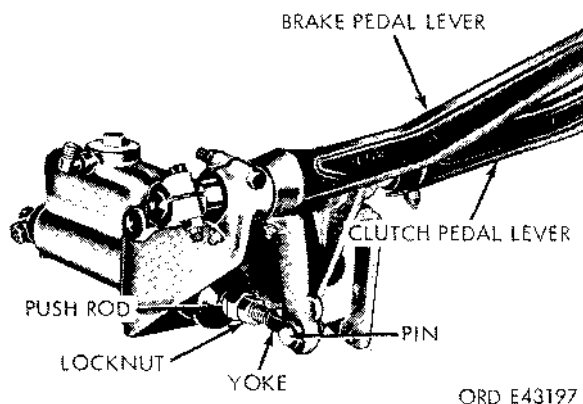
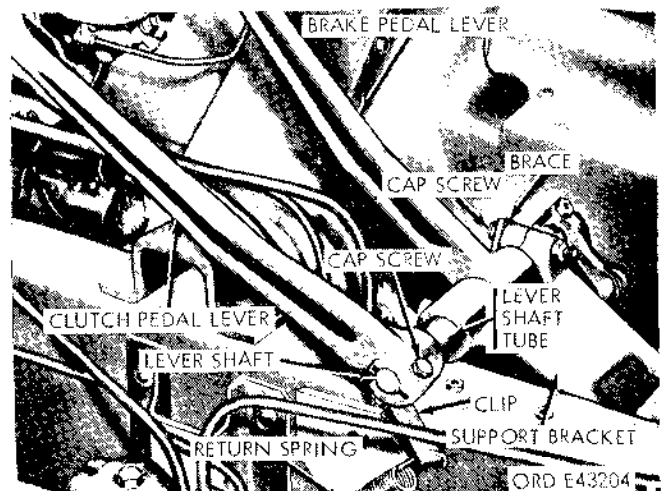

Figure 2-177. Brake pedal linkage with master cylinder attached.
Figure 2-182. Brake and clutch pedal assembly mounted to vehicle.
(a) Remove the pin (fig. 2-177) securing the push rod yoke to the pedal lever.
(b) Hold the push rod to prevent it from turning, and loosen the locknut on the yoke (fig. 2-177).
(c) Holding the push rod, turn the yoke until the desired brake pedal free travel is obtained (fig. 2-177).
(d) Position the push rod yoke on the pedal lever and install the yoke pin (fig. 2-177).
(f) Tighten the locknut on the push rod yoke, holding the push rod to prevent it from turning (fig. 2-177).
(1) Remove the capscrew securing the clutch pedal lever to the lever shaft (fig. 2-182). Remove the pedal assembly from the shaft.
(2) Unhook the upper end of the clutch pedal return spring (fig. 2-182) from the clip bolted to the lower end of the clutch pedal lever.
(3) Remove the nut and screw (fig. 2-182) from the lower end of the clutch pedal lever, and remove the lever clip and key from the lever shaft.
(3) Remove the nut and screw from the upper end of the brake pedal lever (fig. 2-182), and remove the brake pedal stem from the lever.
(6) Remove the rubber bumper from the stem, and remove the brake pedal from the top side of the floor board.
(7) Remove the nut and screw from the control rod lever, and remove the lever and key from the lever shaft.
(8) Remove the cotter pin from the end of the yoke pin (fig. 2-177), remove the yoke pin, and remove the push rod yoke from the lower end of the brake pedal lever.
(9) Unhook the upper end of the brake pedal return spring from the lower end of the brake pedal lever.
(10) Remove the nut and capscrew (fig. 2-182) from the upper right side of the support bracket, and remove the lever shaft tube with the shaft and bushings from the brake pedal lever and support bracket.
(1) Position the brake pedal lever (fig. 2-182) at the support bracket, and install the lever shaft tube with the shaft and bushings in the bore of the bracket and lever.
(2) Align the hole in the upper end of the support bracket brace (fig. 2-182) with the screw hole in the upper right side of the support bracket, and install the screw in the holes in the brace and bracket. Install the nut on the screw, and tighten it.
(3) Install the clutch control rod lever and key on the shaft, and secure it with the capscrew and nut.
(4) Position the control rod on the lower end of the control rod lever, install the yoke pin, and install the cotter pin in the end of the yoke pin.
(3) Install the clutch pedal lever (fig. 2-182) and key on the shaft. Position the return spring bracket clip at the lower end of the lever, install the capscrew in the holes in the lever and clip, and install the nut on the capscrew. Tighten the nut on the capscrew.
(6) Hook the upper end of the clutch pedal return spring to the clip at the lower end of the clutch pedal lever.
(7) Hook the upper end of the brake pedal return spring to the lower end of the brake pedal lever.
(8) Position the yoke (fig. 2-177) on the front of the master cylinder push rod at the lower end of the brake pedal lever, install the yoke pin, and install the cotter pin to the end of the yoke pin.
(9) Insert the brake pedal stem in the hole in the top side of the floor board, install the rubber bumper on the stem, and insert the stem in the hole at the upper end of the brake pedal lever.
(10) Install the capscrew and nut at the upper end of the pedal lever, and tighten it.
(11) Lubricate the brake pedal lever and lever shaft.
(12) Check the brake pedal free travel and adjust it if necessary (para 2-189 a ).
(13) Check the clutch pedal free travel and adjust it if necessary (para 2-49).
(1) Remove the cotter pin from the end of the yoke pin, remove the yoke pin, and remove the master cylinder push rod yoke from the lower end of the brake pedal lever (fig. 2-177).